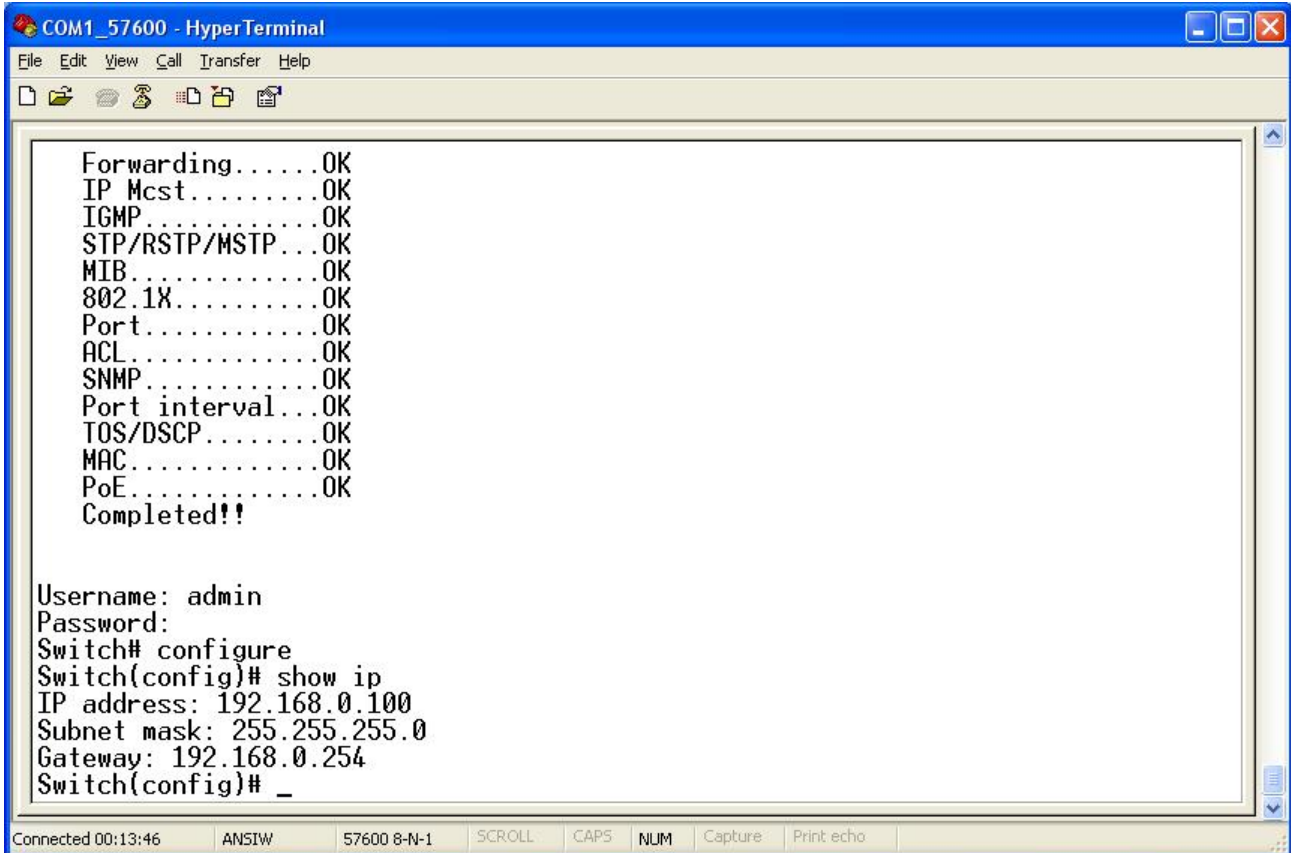

Figure 4: Show IP information Screenshot
- The screen displays the current IP address, Subnet Mask and Gateway. As show in Figure 4.